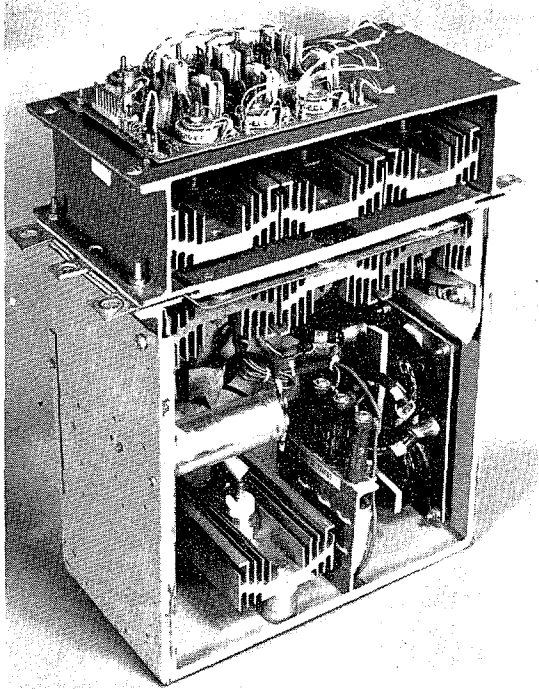
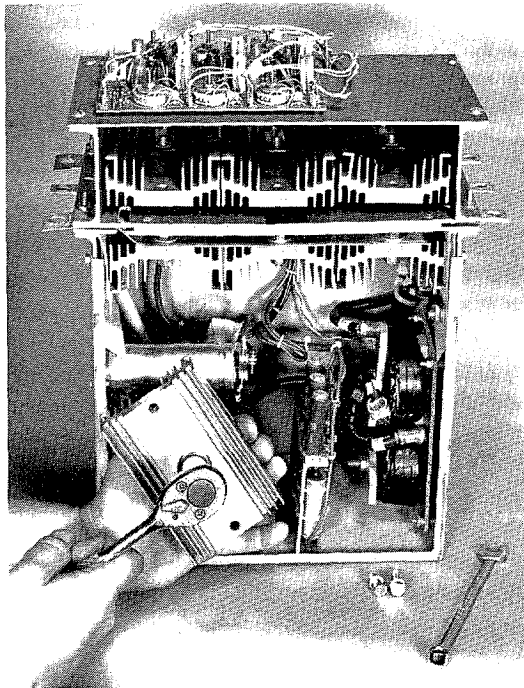

FIGURE 12
FIGURE 17
2. Stand the Converter Module on its backside on table. The pulse transformer, printed circuit card should be on top (normally on the front of the module). See Figure 12.
11. The gate and cathode leads of the replacement SCR should be connected to the pulse transformer card per the converter module elementary diagram. See Figure 17.
2. Stand the converter module on its back side on a 30" high table. See Figure 12.
3. Remove the P3 connection (anode) to the commutating diode (DC).
4. Remove the two bolts that secure the (DC) diode heatsink to the converter module.
6. Remove the stud mounted diode from its heatsink. It is secured with a nut and lock washer. See Figure 17.